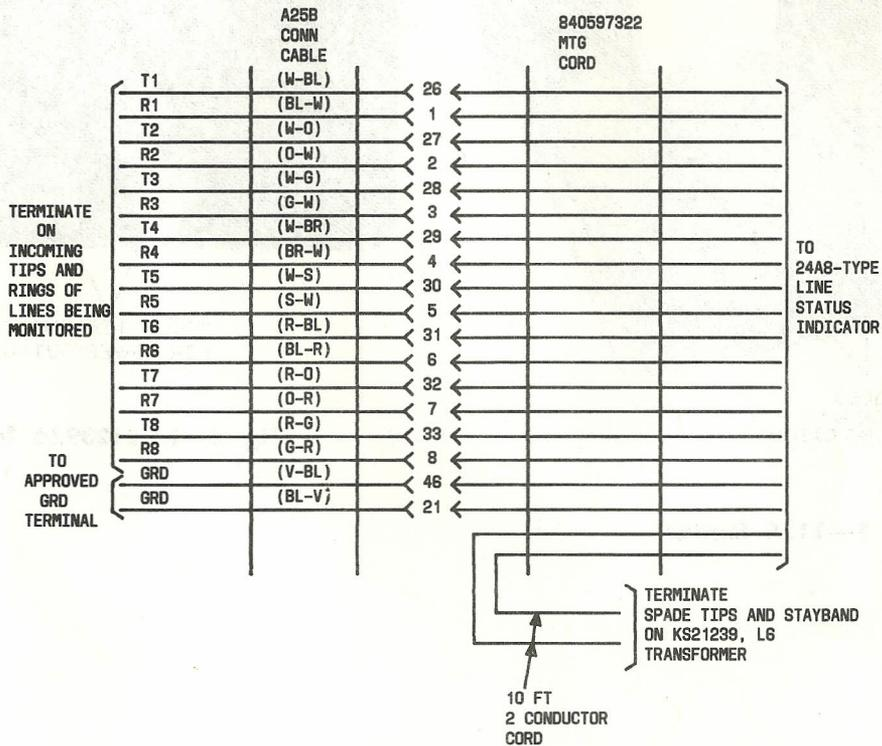

Fig. 8—Connections for 24A8 Line Status Indicator
3.04 Terminate A25B connector cable(s) to the incoming tips and rings of the lines being monitored and the two designated GRD leads (Fig. 8, 9, and 10) to an approved ground terminal.